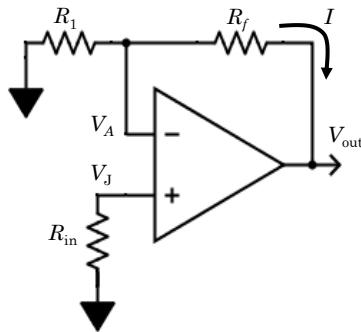
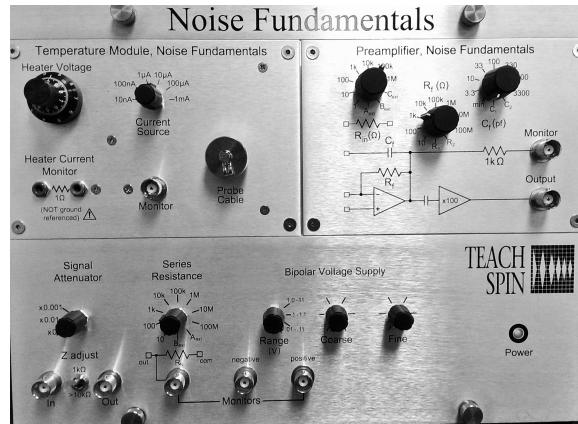

Figure 1: Pre-amplifier schematic
Figure 2: The TeachSpin Low-Level Electronics
The resistor  $R_{\text{in}}$ , which serves as the input source of the Johnson noise signal, is located in the LLE. The noise source is connected to a low-noise op-amp gain circuit, called the pre-amplifier. A schematic is shown in Figure 1. The simplest (but still very useful) model of an op-amp gives two simple “golden rules” for op-amp behavior: (1) the output voltage  $V_{\text{out}}$  attempts to do whatever is necessary to keep a zero voltage difference between the inverting (negative) input and the non-inverting (positive) input ( $V_A - V_J = 0$ ) and (2) the inverting and non-inverting terminals draw no current.
Using Figure 1, and a current  $I$  in the feedback path, use the op-amp “golden rules” to show that
For the pre-amplifier shown in Figure 1,  $R_1$  is a fixed  $200\text{-}\Omega$  resistor.  $R_f$  is an adjustable resistor and controls the gain of the pre-amplifier. After the pre-amplifier, the signal goes through a fixed gain amplifier of  $\times 100$ . This second amplifier leads directly into the output of the LLE as is shown by the schematic in Figure 2.
The output of the LLE,  $V_{\text{LLE}}$ , is measured from the “Output” jack in the upper-right of Figure 2. This output relates to the input Johnson noise via